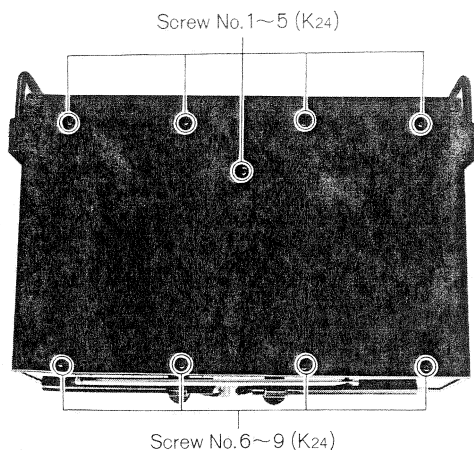

Fig. 5
5. Remove the nine (9) screws (nos. 1~9) for the cabinet cover, as shown in fig. 5.